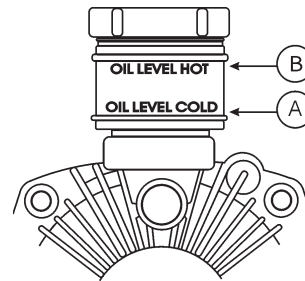

Figure 9. Transmission Reservoir
DO NOT over fill the fluid reservoir (Figure 9). Note the level marks on the reservoir. **It is essential to reference the existing oil conditions (A) cold or (B) hot prior to operating the saw.** Overfilling the transmission with hydraulic fluid may cause the seals to **rupture** causing mechanical damage.